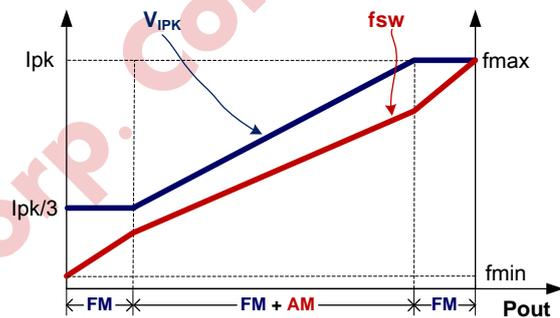

Fig.2
To meet the tight requirement of averaged system efficiency and no load power consumption, a hybrid of frequency modulation (FM) and amplitude modulation (AM) is adopted in KP32652 which is shown in the Fig 2.